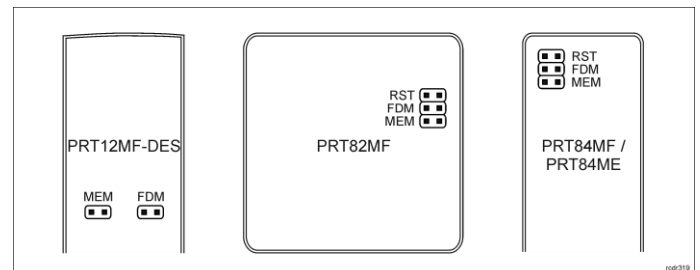

Fig. 2 Service contacts
2. Place jumper on MEM contacts (fig. 2).
The update requires connection of reader to computer with RUD-1 interface (fig. 2) and starting RogerVDM software. The latest firmware file is available at www.roger.pl.
2. Place jumper on FDM contacts (fig. 2).